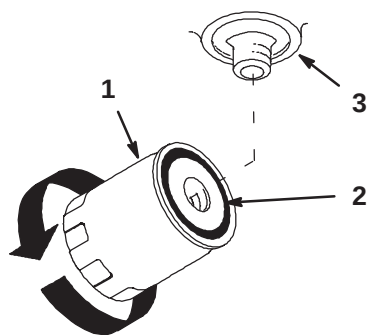

Figure 53
- Apply a thin coat hydro fluid to the rubber gasket on the replacement filter (Fig. 53).
- When fluid overflows filter turn the oil filter clockwise until the rubber gasket contacts the filter adapter, then tighten the filter an additional 1/2 turn (Fig. 53).